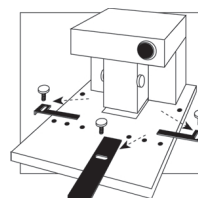

Fig. 3
- 1- Remove the three "thumb-screws" and the "standard" card alignment guides. [Figure 3]